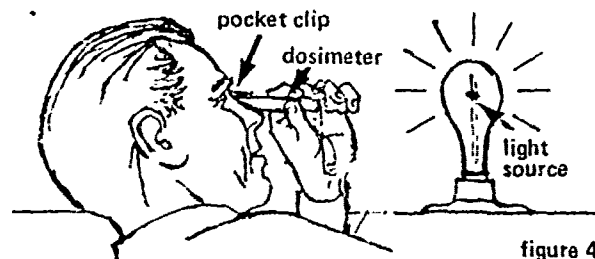
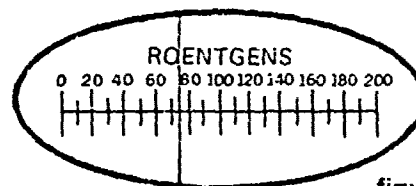

figure 4
figure 7
1. Point the dosimeter at a source of light (figure 4) —even a match, a candle or a flashlight will do— and observe the position of the hairline indicator. If the line is visible and positioned less than mid-scale, record reading. If the line is at or above mid-scale or not visible, the dosimeter must be rezeroed. To rezero, a dosimeter charger is required.
6. To read dosimeter at any time -- point at source of light and observe setting by looking through dosimeter (figure 4). Reading of figure 7 is 75 Roentgens. Your accumulated exposure in Roentgens is this number less the initial reading you recorded.